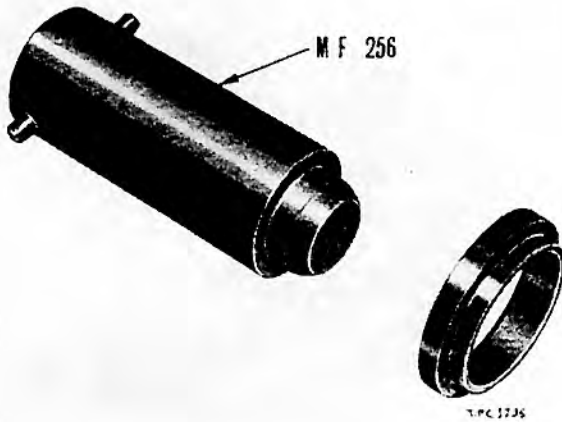

FIGURE 35. SERVICE TOOL MF.256
13. Place oil seal on Service Tool MF.256 (Figure 35) and enter into P.T.O. main drive shaft as shown in Figure 36.